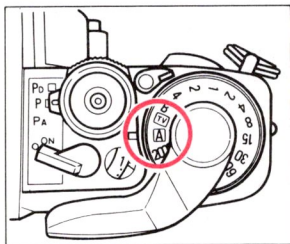

Fig. 25
2. Set the Shutter Speed Dial to "A". (Fig. 25)